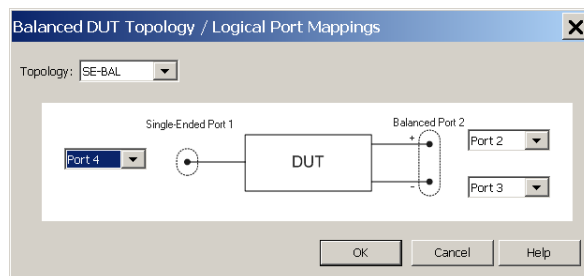

Figure 5 Logical Port Mapping for EO measurement
For EO measurement the single-ended (SE), logical port 1 is assigned to physical port 4 and the balanced (BAL), logical port 2 is assigned to physical ports 2 and 3 (see Figure 5)